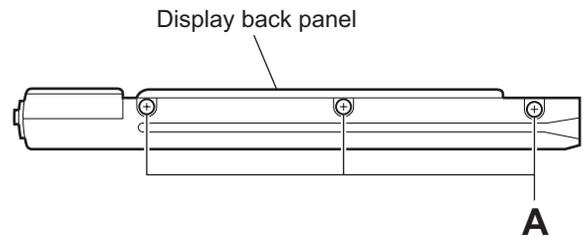

Fig.1
#### 3.3.1 Removing the display back panel (See Figs.1 to 3)
- (1) From the both sides of the display unit, remove the six screws **A** attaching the display back panel. (See Figs.1 and 2.)